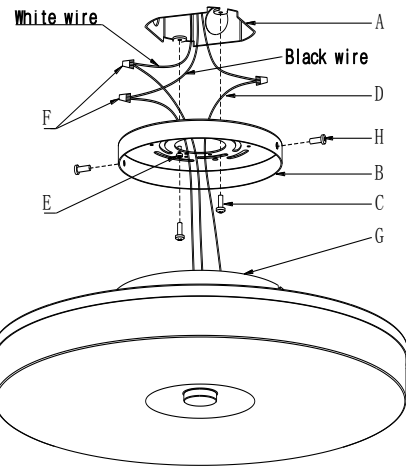

Fig.2
CONNECTING THE WIRES (FIG. 2)
4. At this point, connect the electrical wires as shown in Fig. 2, making sure that all wire connectors are secured. If your outlet has a ground wire (green or bare copper), connect the fixtures ground wire to it. Otherwise, connect the fixture ground wire directly to the back plate (B) using the green screw (E) provided. After wires are connected, tuck them carefully inside the junction box.